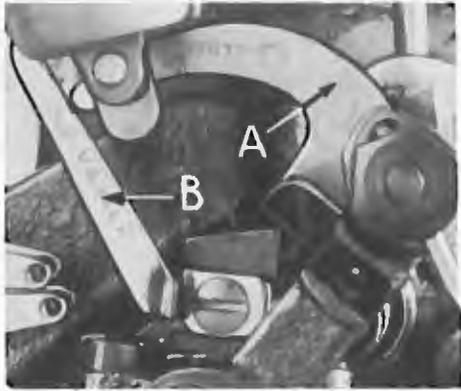

Fig. 4
If needle thread cam pull-off (A, Fig. 4) overlaps looper thread pull-off (B), separate by moving looper thread pull-off back. When retightening looper pull-off screw, be sure to take up end play